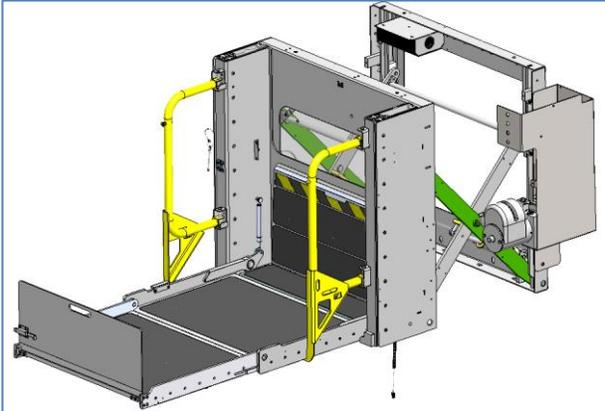
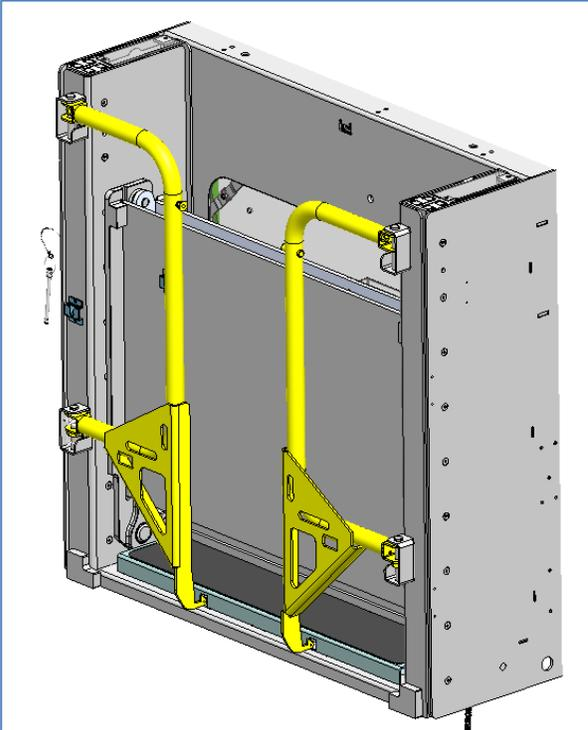

Figure 18
Figure 19
- 14) Press the STOW push button until the platform stops at ready to stow position (see Figure 18). Fold and stow the platform (see Figure 19).